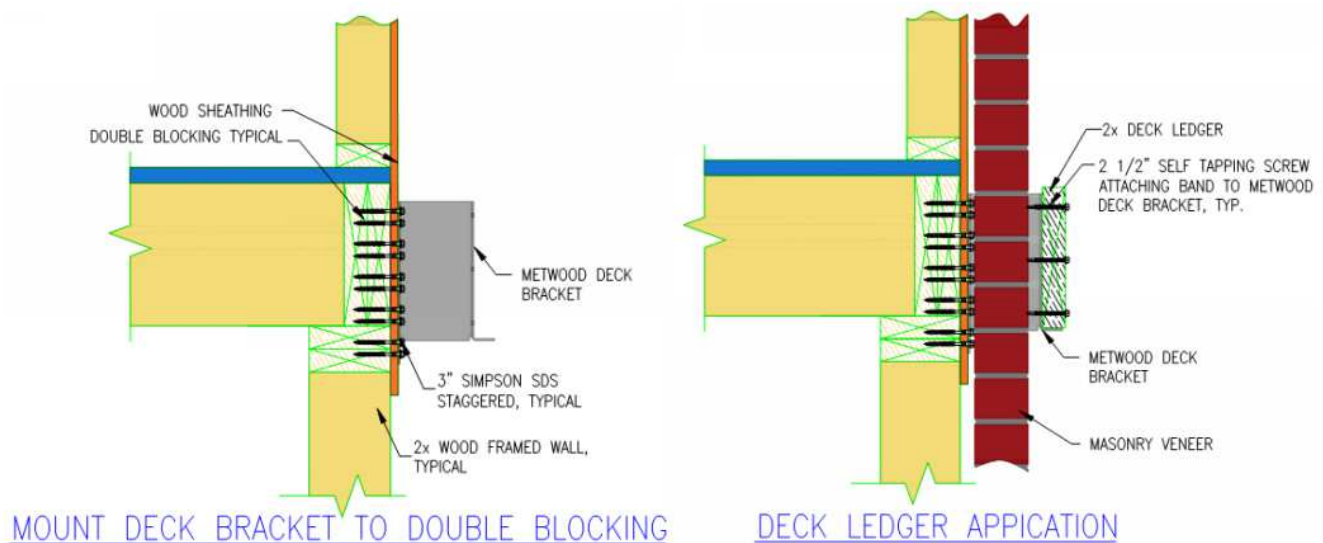

FIGURE 2 – Installation Diagram
5.2 The MTWDeck Bracket fastens the deck ledger to the adjacent building's rim joists. See Table 2 for fastening schedule and Figure 2 for installation diagram. Masonry veneer is installed around the MTWDeck Bracket.